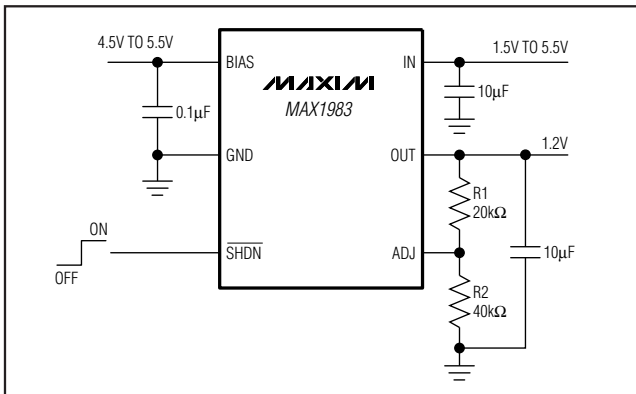

Figure 4. MAX1983 Typical Application Circuit
**Note 2:**  $V_{OUT}$  is 1.2V for MAX1982. For MAX1983  $V_{OUT}$  is set to 1.2V with circuit of Figure 4.
GND as shown in Figure 4. Set the output voltage using the following equation: